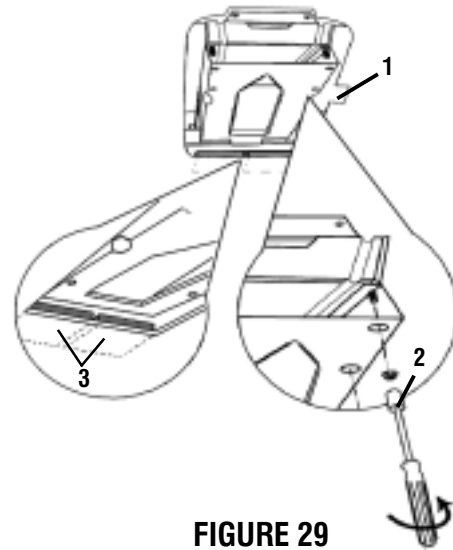

FIGURE 29
4. WITH THE BOTTOM DVD MOUNTING BRACKET TABS IN PLACE, PUSH THE REAR SIDE OF THE BRACKET UPWARD (1), APPLY LOCTITE USING AN 8mm SOCKET OR A NUTDRIVER TO TIGHTEN DOWN THE FOUR M5 NUTS (2) TO SECURE. (SEE FIGURE 29)
5. BEFORE REMOVING BACKING FROM TWO FOAM BLOCKS, PLACE EACH AT LOCATION SHOWN. EDGE OF FOAM BLOCKS SHOULD TOUCH FRONT VERTICAL EDGE OF BOTTOM BRACKET AND BE ON OUTER TANG ONLY. FOAM SHOULD NOT OVERLAP ON CENTER TANG. (SEE FIGURE 29)